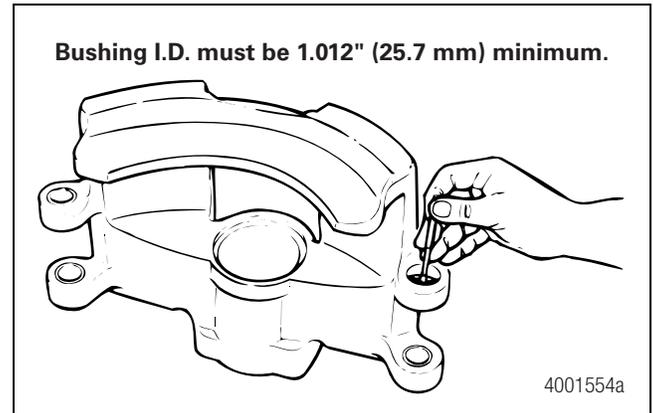

Figure 4.11
6. Measure the inner diameters of the outer and inner bushings to verify correct installation. Each bushing inner diameter must equal 1.012-inches (25.7 mm). Figure 4.11.